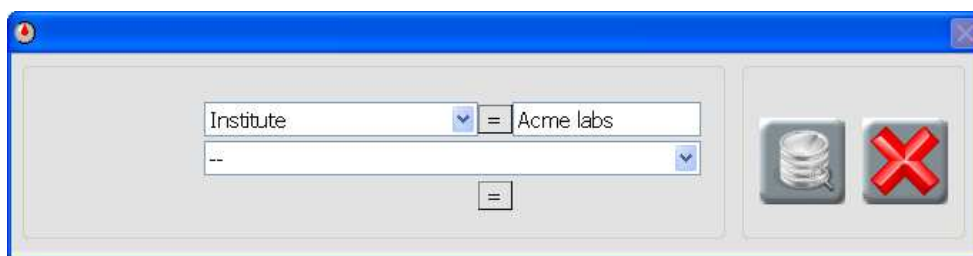

Fig. 6-26
- If you only want to search using one criterion, '---' must be selected from the middle drop-down list (see Fig. 6-26).